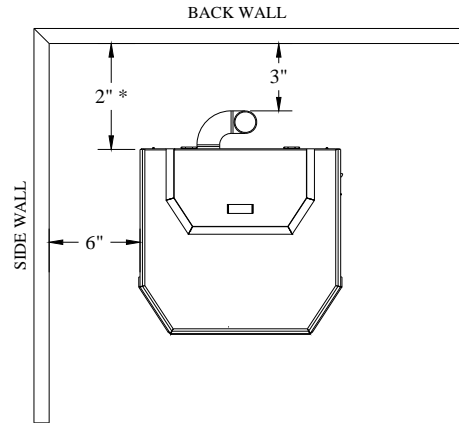

Figure 1
The HYBRID-35 has been tested and listed for installation in regular and mobile homes.(refer figure 1 & 2)
1. Position stove, adhering to clearances shown in Figures 1 & 2.
5. Position the stove, adhering to the clearances in Figures 1 & 2.